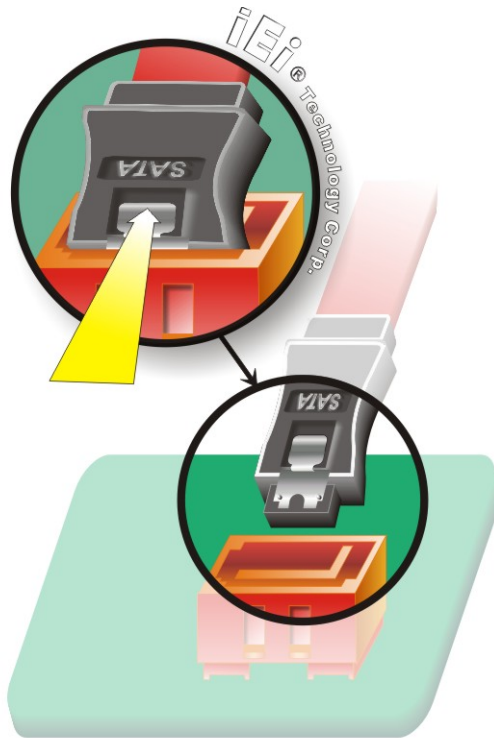

Figure 5-19: SATA Drive Cable Connection
Step 2: **Insert the cable connector.** Press the clip on the connector at the end of the SATA cable and insert the cable connector into the onboard SATA drive connector. See **Figure 5-19**.